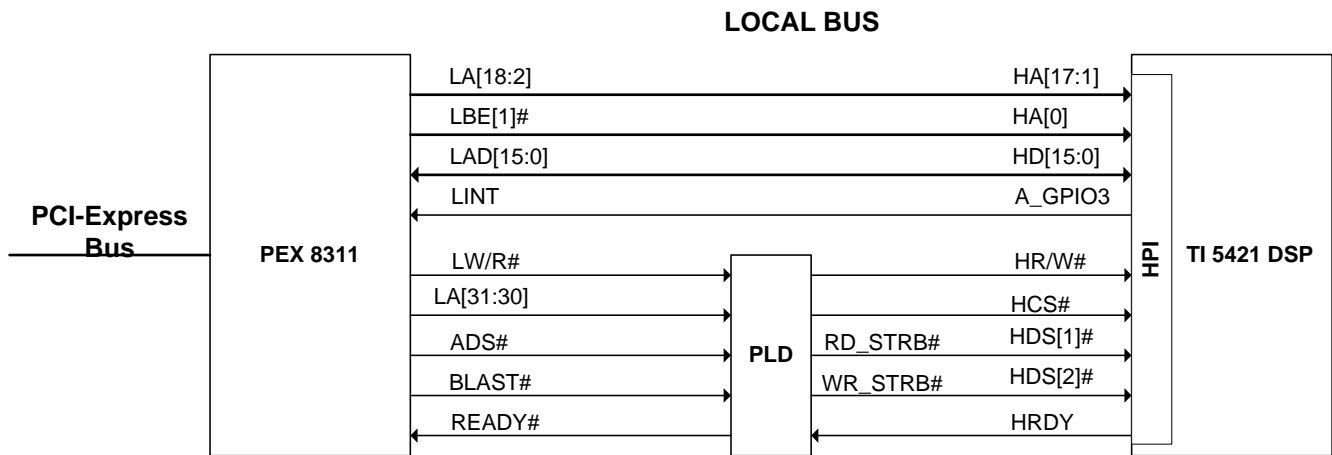

Figure 3. PLX PEX 8311 and TI 5421 Signal Connections
- Figure 3. PLX PEX 8311 and TI 5421 Signal Connections4
Figure 3 shows the signal connections between the PEX 8311 and TI 5421.